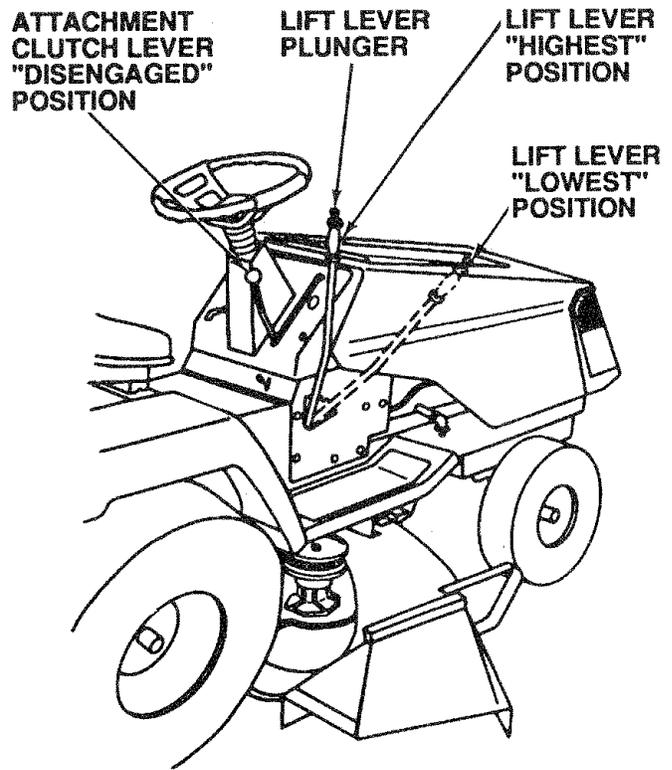
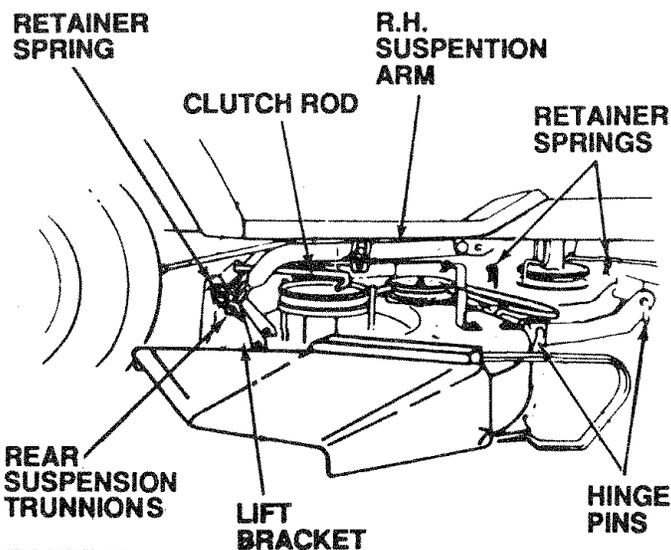

FIGURE 30
FIGURE 29
- Remove retainer spring from clutch rod; pull clutch rod out of clutch bracket. (Fig. 29)
- Pull retainer springs out of rear suspension trunnions. Remove rear suspension trunnions from lift brackets (Fig. 29).
- Pull retainer spring out of rear hinge pin. Remove rear hinge pin. (Fig. 29).
- Pull retainer spring out of front hinge pin. Remove front hinge pin (Fig. 29).
NOTE: IF AN ATTACHMENT OTHER THAN THE MOWER DECK IS TO BE MOUNTED ON THE TRACTOR, THE L.H. AND R.H. SUSPENSION ARMS (FIG. 29) SHOULD BE REMOVED FROM TRACTOR.
Your Mower installs without the use of tools. Raise attachment lift lever (Fig. 30) to its highest position:
- Move attachment lift lever (Fig. 30) forward to lower suspension arms. Slide trunnions through lift bracket holes and secure with retainer springs (Fig. 29).
- Use attachment lift lever (Fig. 30) to raise mower.
- Place attachment clutch lever in "Disengaged" position (Fig.30).
- Move Attachment lift lever (Fig. 30) forward to lower mower to its lowest position.